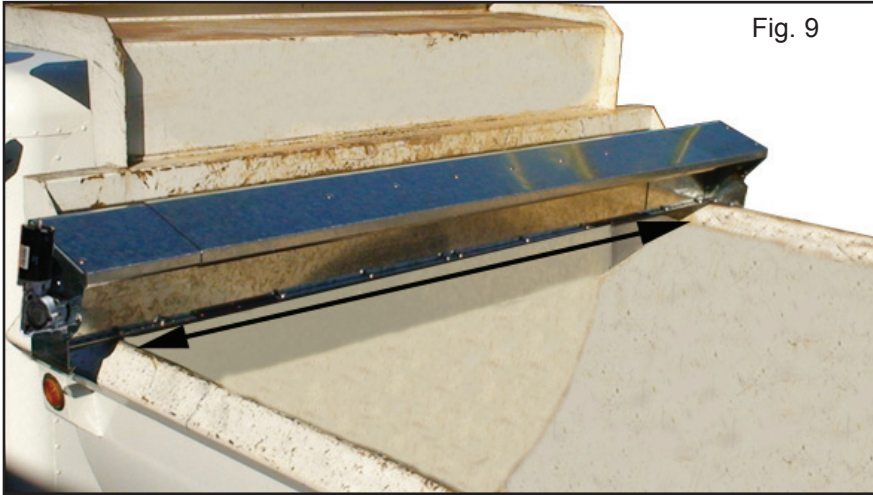

Fig. 9
Step 2. Measure body width at mounting location. (Fig. 9)